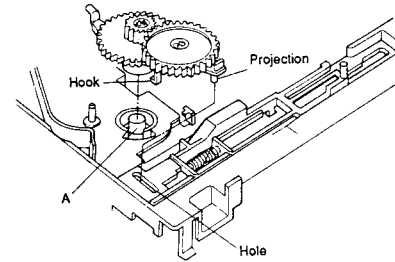

Figure 39
(2) While keeping procedure (1), insert the projection of Load Gear ass'y into the hole of Slide Lever and the hook into the portion A, as shown in Figure 39, then fasten the hook.